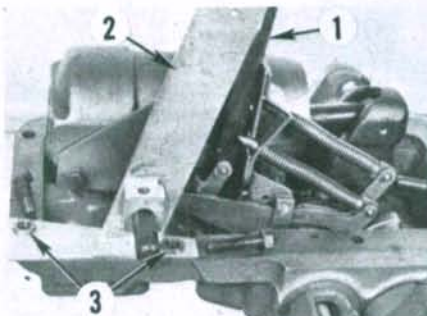

Fig. 266—The special tool (MFN1080D) shown at (2) should be installed using two Nuday 6088 bushings (3). Vertical lever is shown at (1).
Install special tool MFN1080D (2—Fig. 266) on lift cover using special Nuday 6088 bushings (3) and two nuts and bolts. Be sure that the vertical lever (1) is to the rear of setting rod of special tool, then slide special Nuday 6089 bushing (B—Fig. 269) over the setting rod.